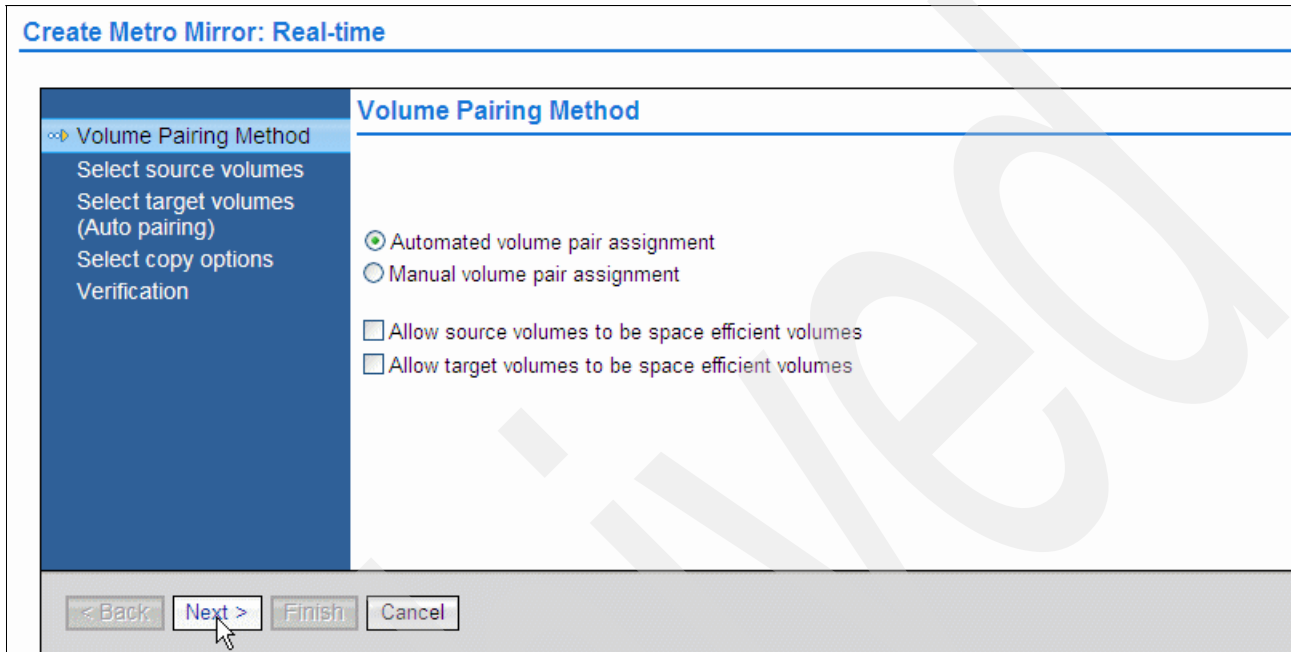

Figure 12-5 Volume Pairing Method for Metro Mirror
4. In the Volume Pairing Method panel, you can choose to have the individual pairs linked automatically by the system (see Figure 12-5). If you select the “Automated volume pair assignment” option, the system pairs the first volume on the source with the first volume on the target, then the second, third, and so on until all volumes are paired. If your naming convention does not allow this, you must select **Manual volume pair assignment**. Click **Next** to continue.